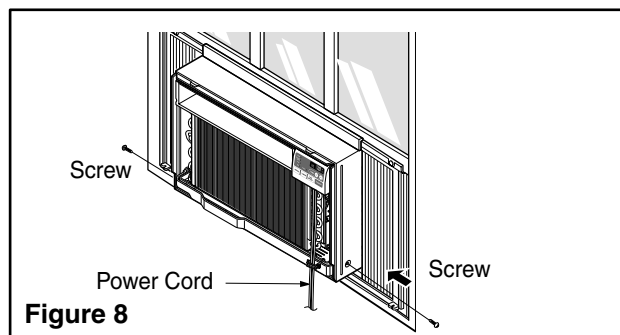

Figure 8
7. Slide the unit into the cabinet. (See Fig. 8)